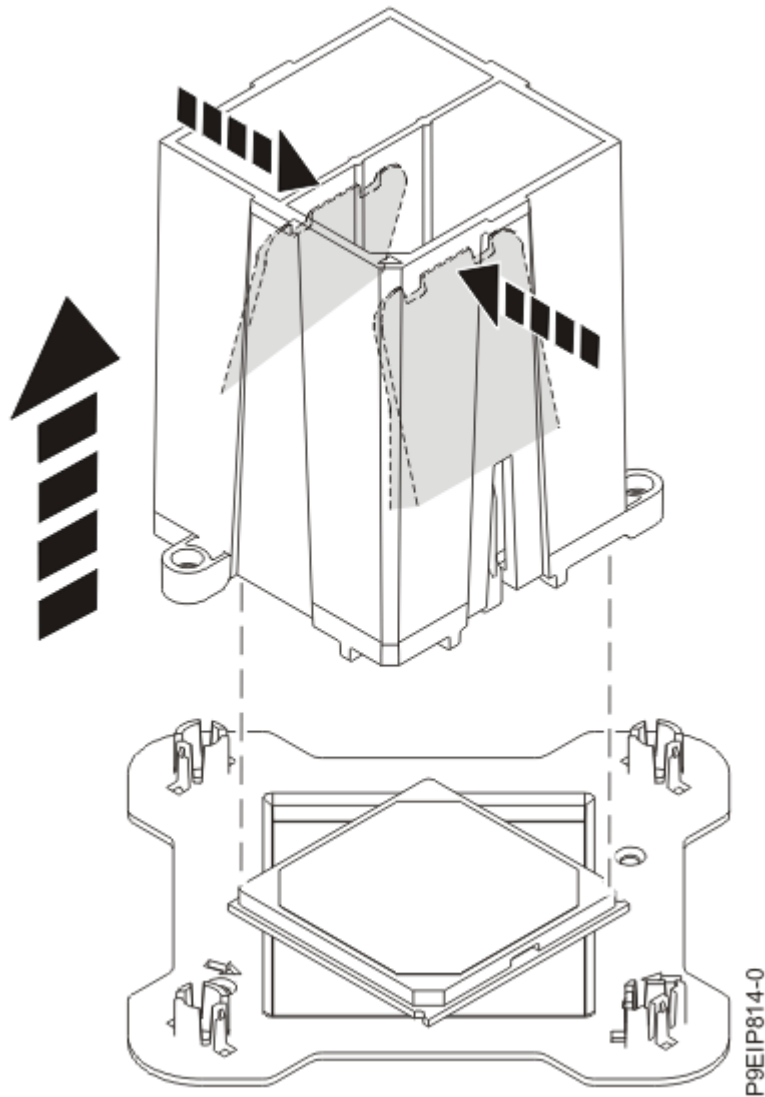

Figure 60. Releasing the system processor module from the tool
11. Squeeze the two blue tabs to release the system processor module from the tool as shown in Figure 60 on page 67.